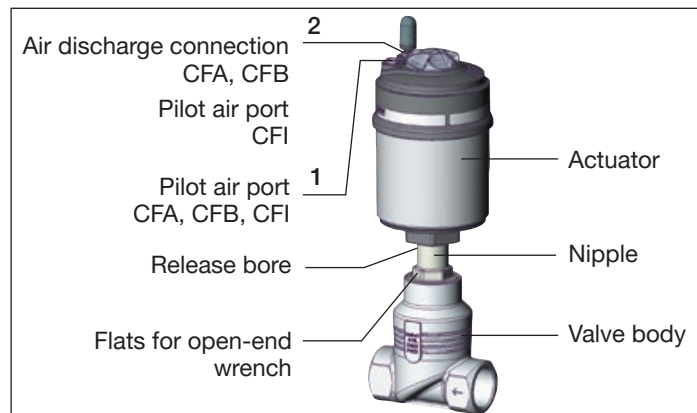

Fig. 26: Designation parts
- **Control function A and I** Pressurize pilot air port 1 with 6 – 8 bar (see “Fig. 26: Designation parts”).
- **Control function B** Pressurize pilot air port 2 with 6 – 8 bar (see “Fig. 26: Designation parts”).